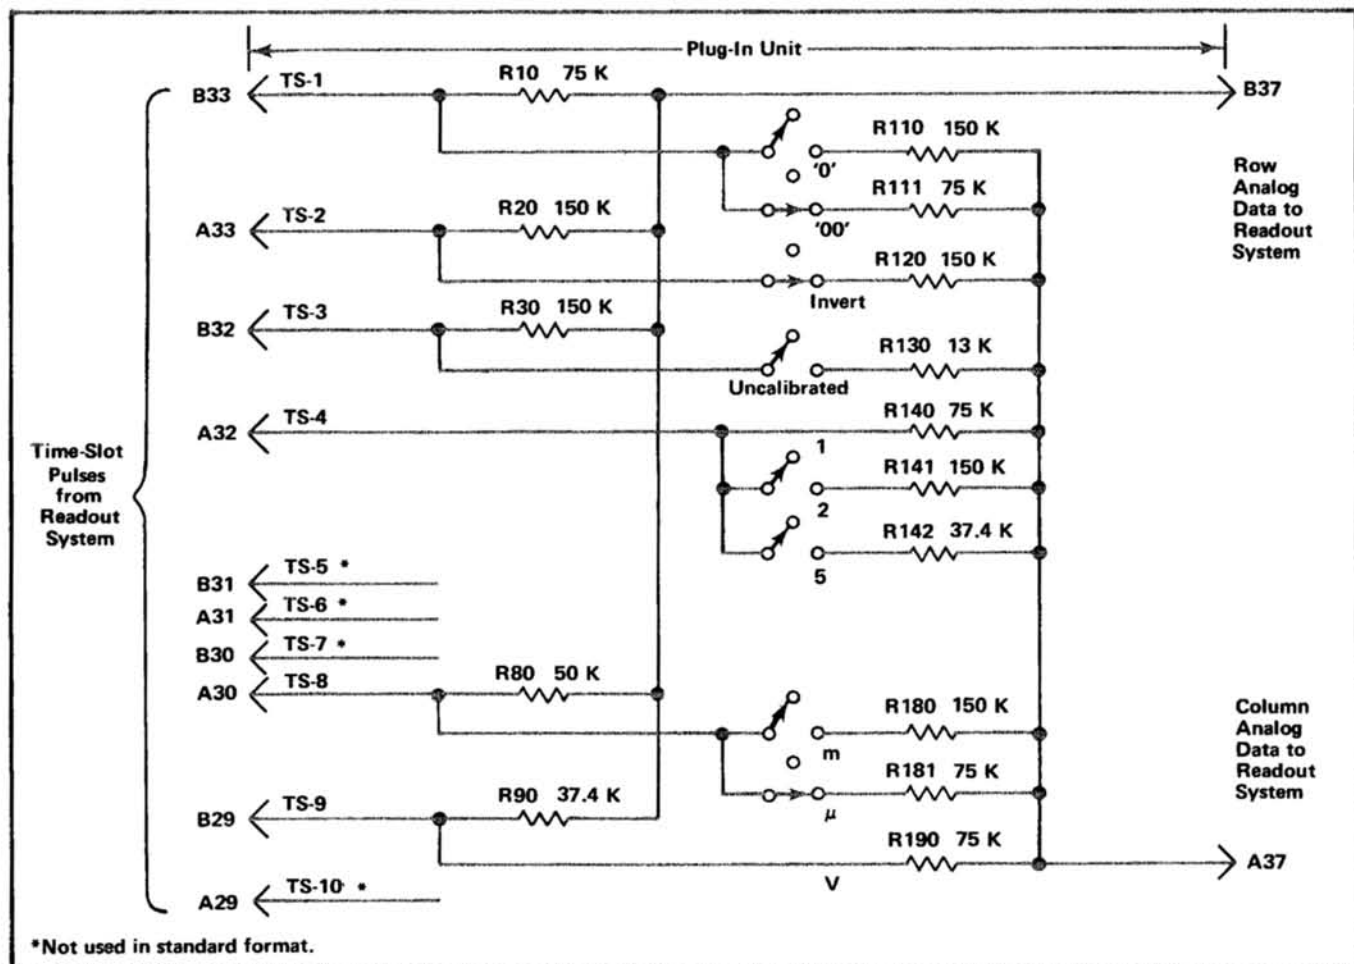
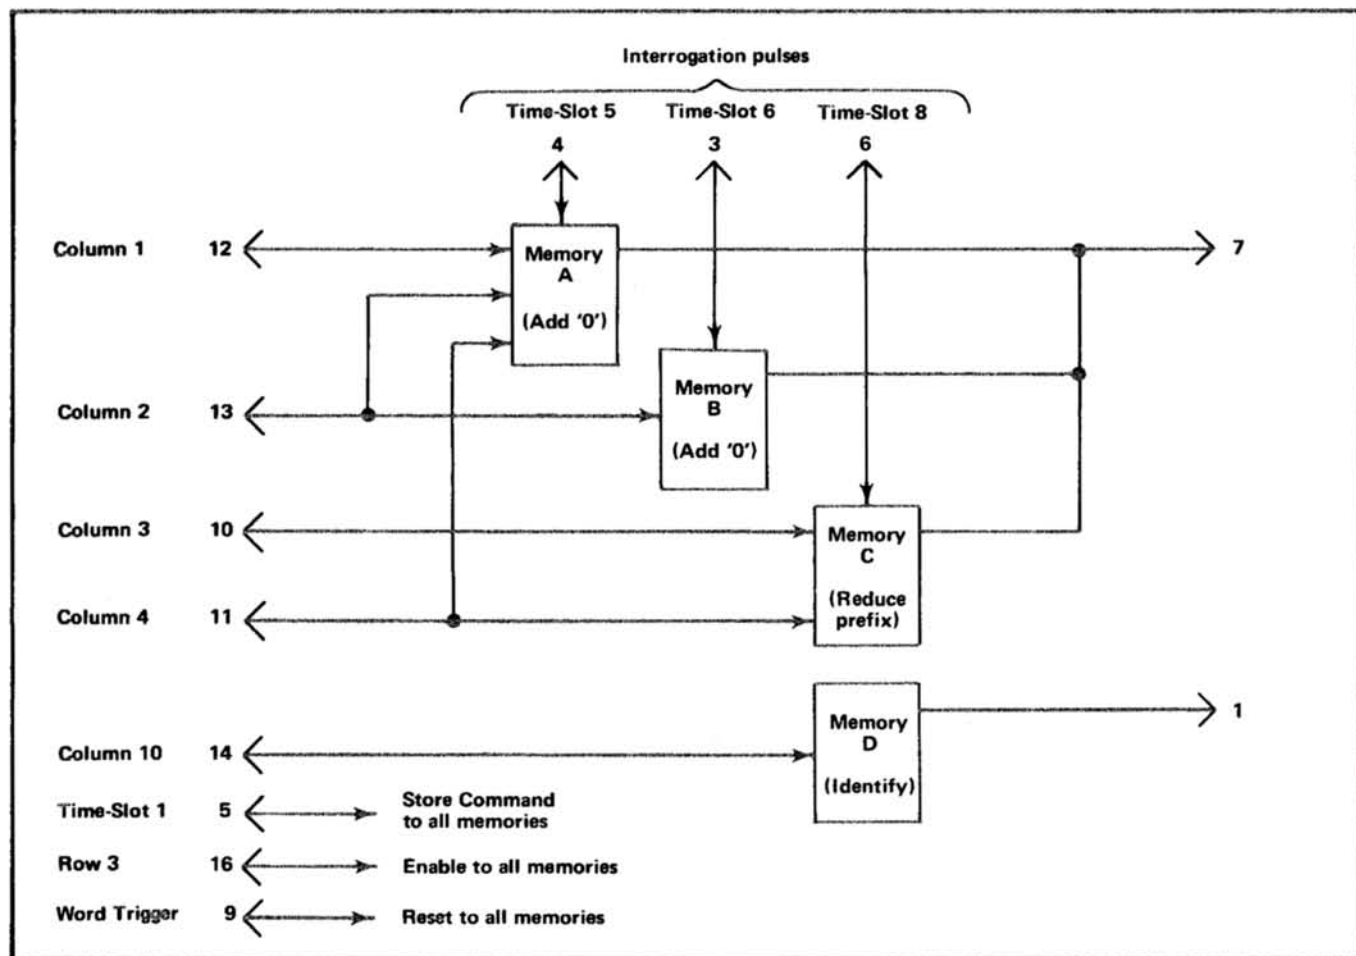
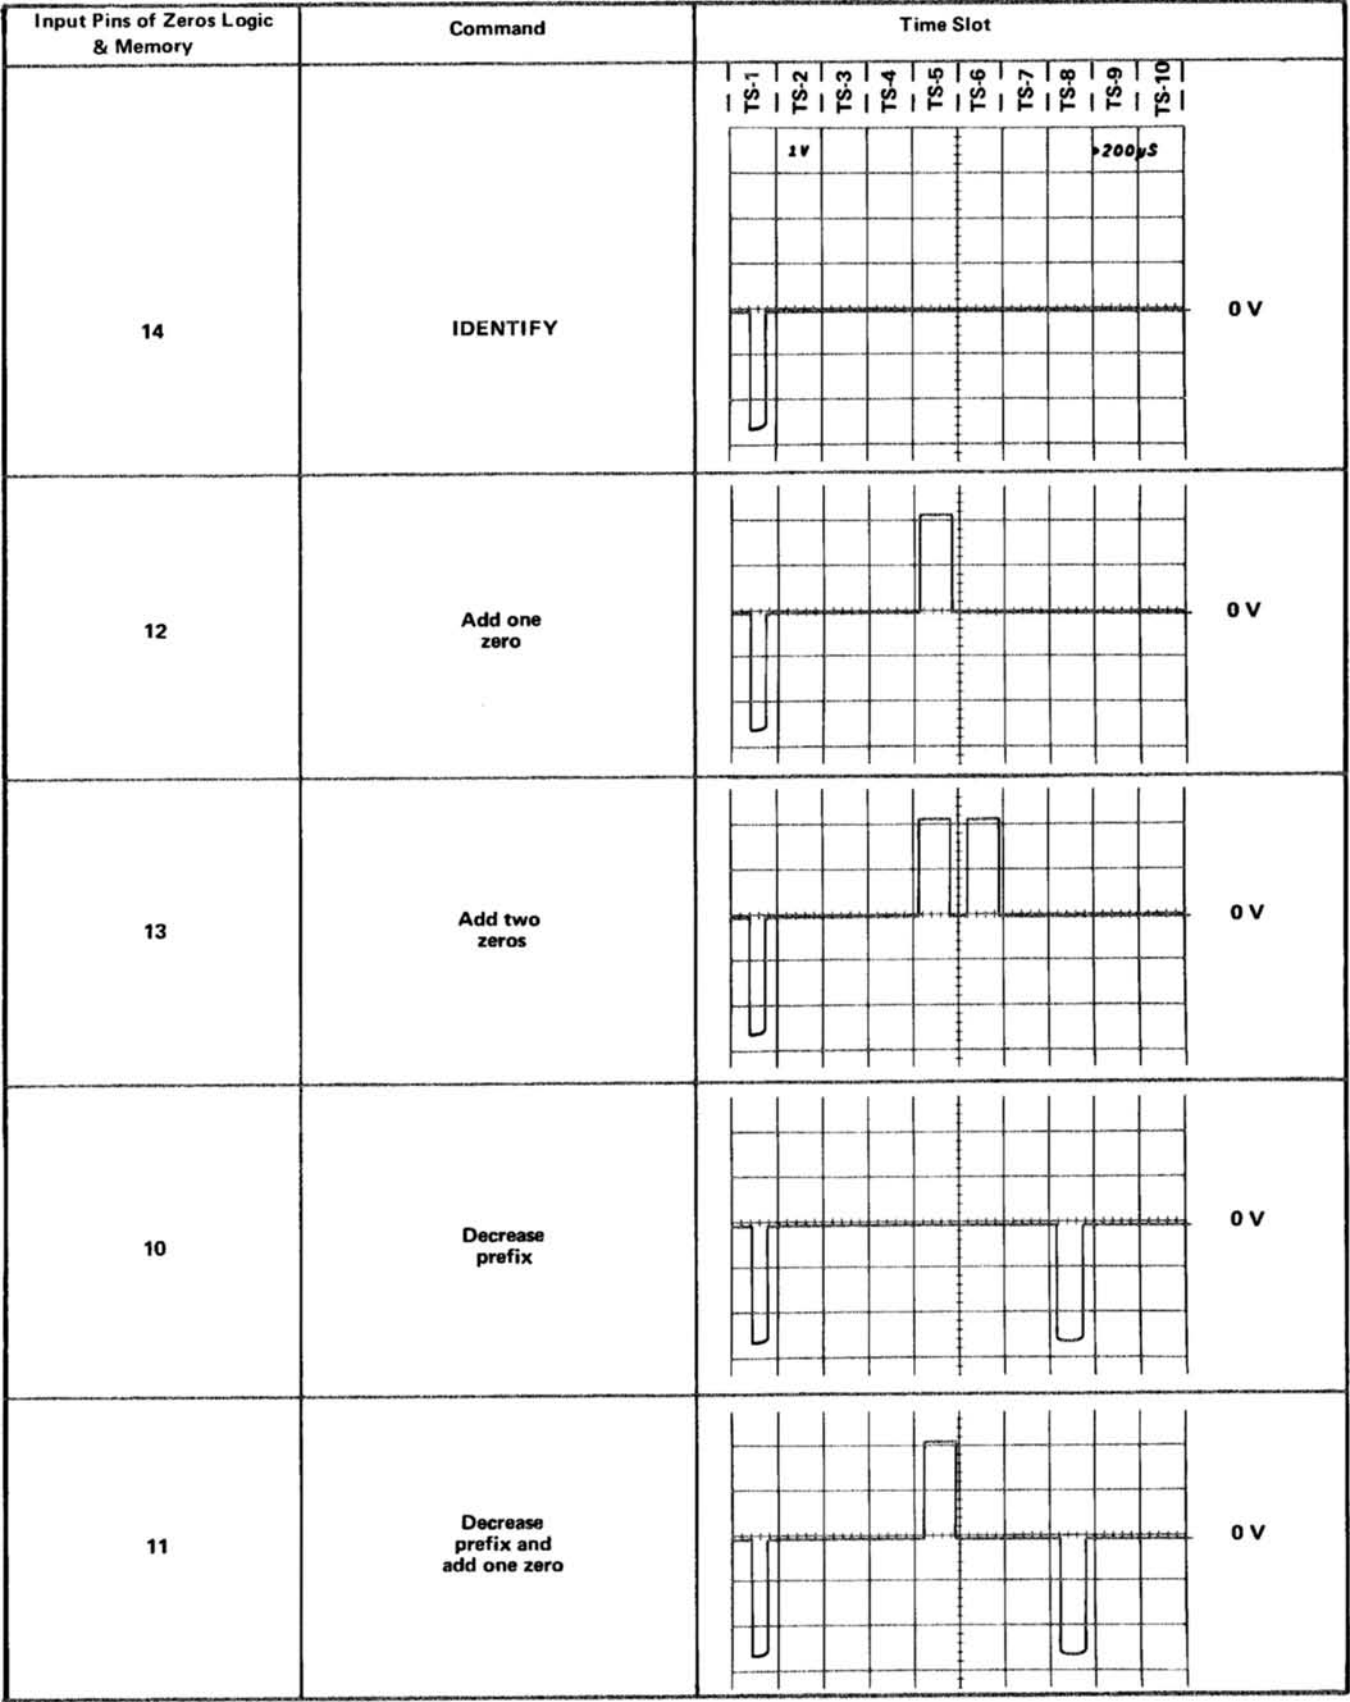

Fig. 3-32. Typical encoding scheme for voltage-sensing amplifier plug-in unit. Coding shown for deflection factor of 100 microvolts.
Fig. 3-34. Block representation of memory sequence in U2232.
Fig. 3-35. Typical output waveforms for Zeros Logic and Memory stage operation (at pin 7 of U2232).
Data is conveyed from the plug-in units to the Readout System in the form of an analog code having up to 11 current levels (from zero to one milliamper in 100 microampere steps). The characters which can be selected by the encoded data are shown on the Character Selection Matrix (see Fig. 3-25). Each character requires two currents to define it; these currents are identified as the column current and the row current which correspond to the column and row of the matrix. The column and row data is encoded by resistive programming in the plug-in units. Fig. 3-32 shows a typical encoding scheme for a voltage-sensing amplifier plug-in unit. Notice that the 10 time-slot (TS) pulses produced by the Time-Slot Counter stage are connected to the plug-in unit. However, time-slots 5, 6, 7, and 10 are not used by the plug-in unit to encode data when using the Standard Readout Format (see Table 3-2 for Standard Readout Format). The amplitude of the time-slot pulses is exactly -15 volts as determined by the Timer stage. Therefore, the resultant output current from the plug-in units can be accurately controlled by the programming resistors in the plug-in units.
For example, in Fig. 3-32, resistors R10 through R90 control the row analog data which is connected back to the Readout System. These resistors are of fixed value and define the format in which the information will be presented by the Readout System. Fig. 3-33A shows an idealized output current waveform of row analog data which results from the 10 time-slot pulses. Each of the steps of current shown in these waveforms corresponds to 100 microamperes of current. The row numbers on the left-hand side of the waveform correspond to the rows in the Character Selection Matrix shown in Fig. 3-35. The row analog data is connected back to the Readout System via terminal B37 of the plug-in interface.
The Column analog data is defined by resistors R110 through R190. The program resistors are connected to the time-slot lines by switch closures to encode the desired data. The data as encoded by the circuit shown in Fig. 3-32 indicates a 100 microvolt sensitivity with the display inverted and calibrated vertical deflection factors. This results in the idealized output current waveforms shown in Fig. 3-33B at the column analog data output, terminal A37 of the plug-in interface. Resistor R111, connected between time-slot 1 and the column analog data output, encodes two units of current during time-slot 1. Referring to the
connectors of vertical plug-in units. A special coding ring around the input connector of the plug-in unit senses the attenuation ratio of the probe (with readout-coded probes only). The probe contains a resistor which results in additional column current. For example, if a 10X attenuator probe is connected to a plug-in with the coding for 100 microvolts as shown in Fig. 3-32, an additional unit of current is added to the column analog data during time-slot 1. Since two units of current were encoded by R111 (see Fig. 3-32), this additional current results in a total of three units of column analog current during this time-slot. Referring to the Character Selection Matrix, three units of column current along with the two units of row current encoded by R10 indicates that the prefix should be reduced. Since this instruction occurs in the same time-slot which previously indicated that two zeros should be added to the display and only one instruction can be encoded during a time-slot, the zeros do not appear in the display. The CRT readout will now be changed to 1 mV (readout) program produced by plug-in same as for previous example.
The Zeros Logic and Memory stage U2232 stores data encoded by the plug-in units to provide zeros-adding and prefix-shifting logic for the Readout System. The Strobe pulse at pin 15 goes positive when the data has stabilized and can be inspected. This activates the Zeros Logic and Memory stage so it can store the encoded data. A block representation of the memory sequence is shown in Fig. 3-34. Typical output waveforms for the five possible input conditions that can occur are shown in Fig. 3-35. When time-slot 1 occurs, a store command is given to all of the